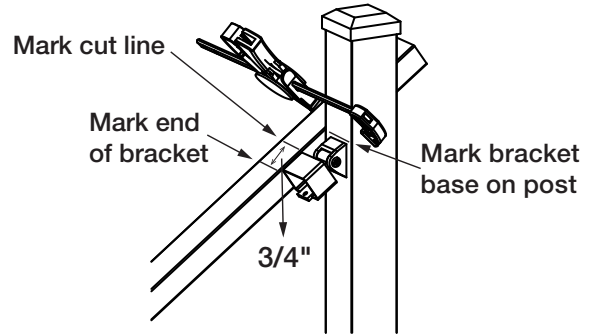

fig. 10
Step 5 Measure the distance between installed posts to determine the length of the top rail. Position the railing on the stairs on top of a spacer block along the stair nosings. The distance between the post and the cable spacer should be equal on both ends. Once the railing is in position, clamp the railing to the posts. Temporarily assemble the swivel brackets. Position the swivel bracket in location along the clamped rail. Mark the rail at the end of the bracket, add 3/4" and make a second mark for cutting. Mark the post along the top or bottom of the bracket base (B4). See fig. 10. Repeat for the other bracket and post locations.
Step 6 Mark locations of the bracket screw holes on the the bottom of the rails. Remove brackets. Predrill through the rail only, using a 3/16" drill bit. Attach the front end of brackets (B1) to rails using the (2) 1/4 x 1" Pan Head Screws (B9) provided.
Step 7 Holding the bracket bases on the posts at the previously marked locations, transfer the location of the bracket base (B4) screw holes onto the post. Note: Include the bracket side cover (B3) when determining the center location. Predrill through the post, using a 3/16" drill bit. Position the base of each bracket with the bracket cover side facing the stairs, and attach to the post with the (2) #10 x 1" Self Drilling Flat Head Screws (B7) provided.